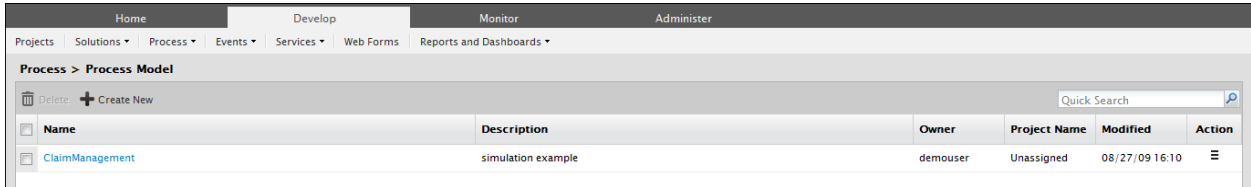

Figure 1: Manage Process Model
- 2. Click **Process Model**. The **Manage Process Model** screen is displayed (see Figure 1).